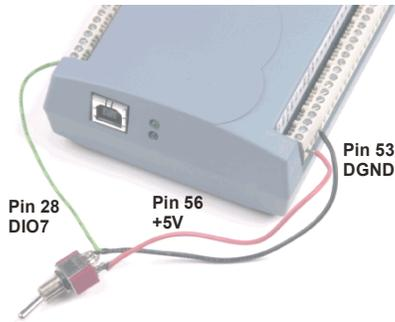
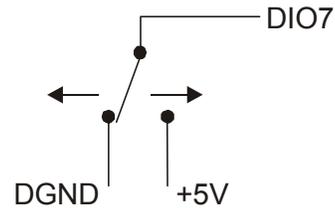

Figure 6. DIO7 detecting the state of a switch
Figure 7. Schematic showing DIO7 detecting the state of a switch
When you configure the digital bits for input, you can use the digital I/O terminals to detect the state of any TTL level input. Refer to the switch shown in Figure 6 and the schematic shown in Figure 7. When the switch is set to the +5 V USER input, DIO7 reads *TRUE* (1). If you move the switch to DGND, DIO7 reads *FALSE*